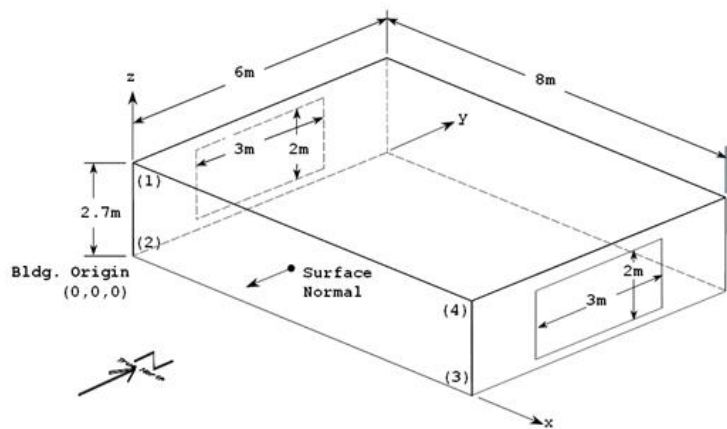

Figure 11. Schematic for Exercise 1
5. Add the east window (3m wide by 2m high, centered on wall, *see the drawing in Figure 11 to determine coordinates*):
- Vertex coordinates = *as determined from the drawing Figure 11*. Coordinates in this input are in World Coordinates (all relative to the global origin of 0,0,0). Coordinates are specified as viewed from the outside of the surface, using the rules specified in the SurfaceGeometry object.